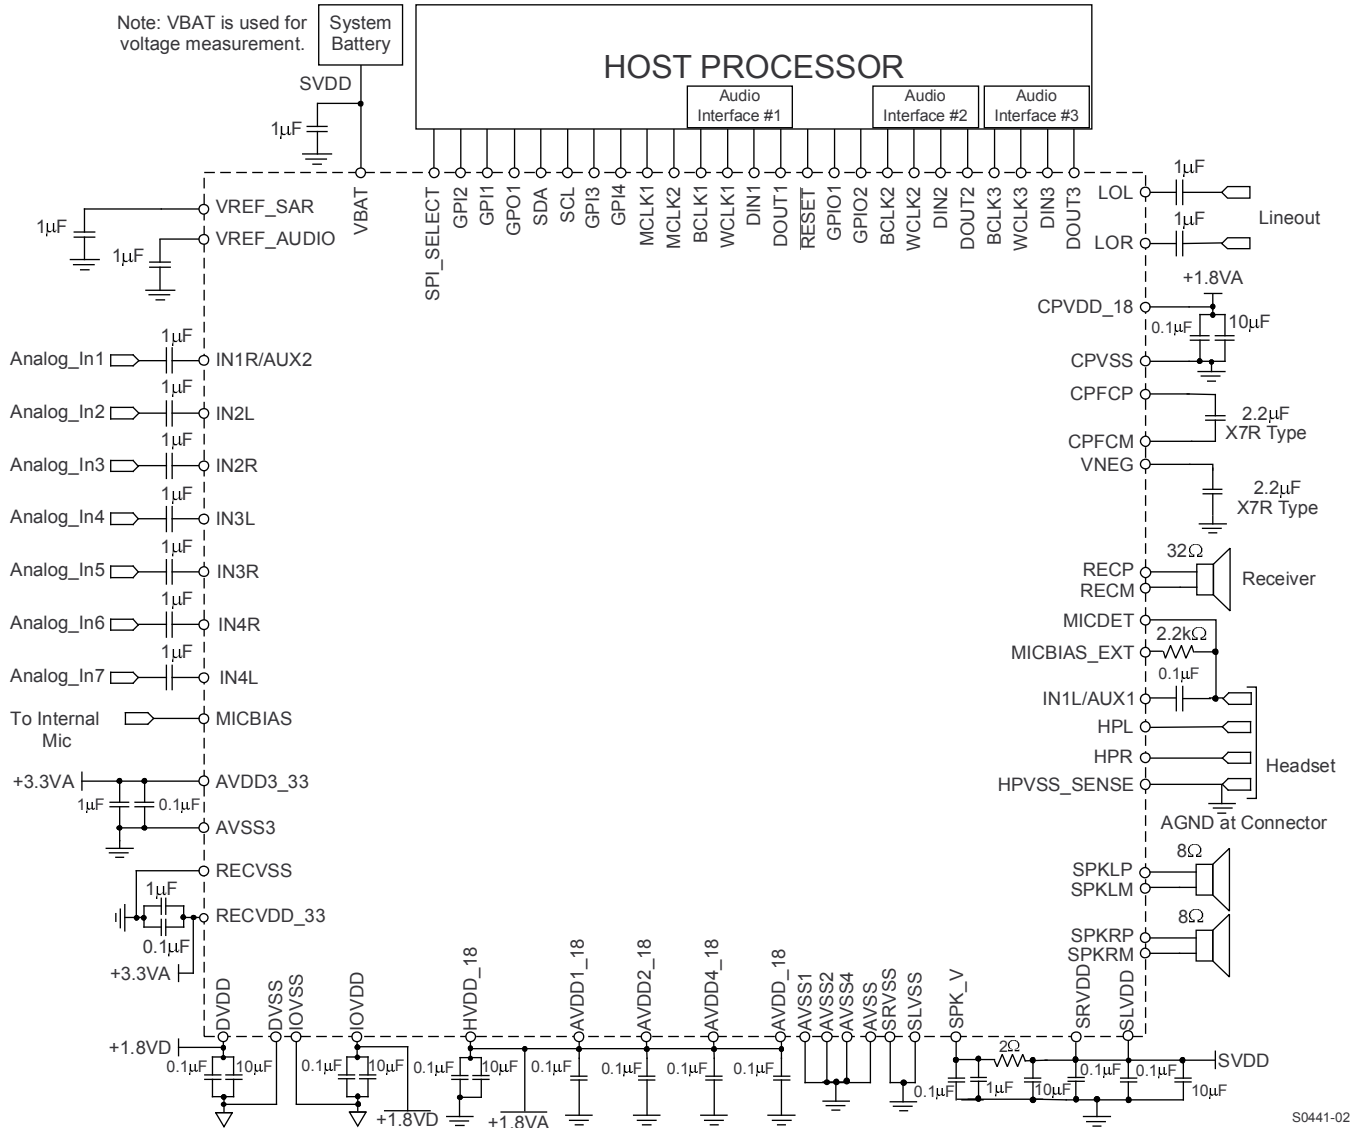

图 33. Typical Circuit Configuration
Figure 33 shows a typical circuit configuration for a system utilizing TLV320AIC3212. Note that while this circuit configuration shows all three Audio Serial Interfaces connected to a single Host Processor, it is also quite common for these Audio Serial Interfaces to connect to separate devices (for example, Host Processor on Audio Serial Interface number 1, and modems and/or Bluetooth devices on the other audio serial interfaces).
- The decoupling capacitors for the power supplies should be placed close to the device terminals. Figure 33 shows the recommended decoupling capacitors for the TLV320AIC3212.